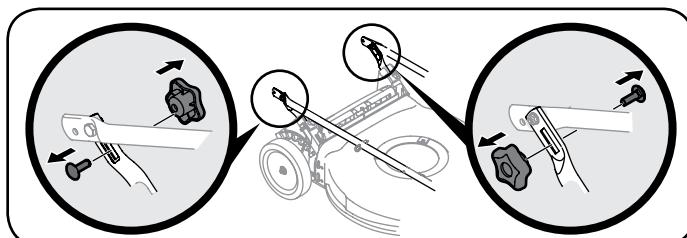
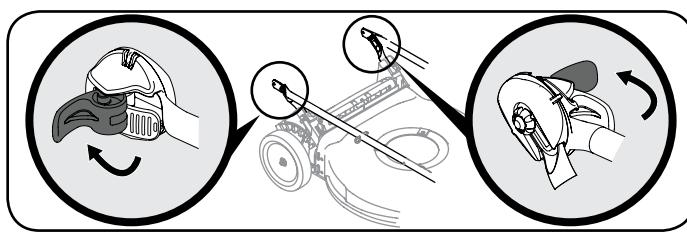

Figure 1
Figure 2
2. Perform one of the following according to handles shown in Figure 1 or Figure 2:
- a. Handles with Knob and Carriage Bolts - Remove knob and carriage bolts. Do not loosen or remove adjacent hex head screws. See Figure 1.
- b. EZ-Fold Handles - The EZ-Fold handle release levers are shipped in the unlocked positions. See Figure 2. Proceed to Step 3.